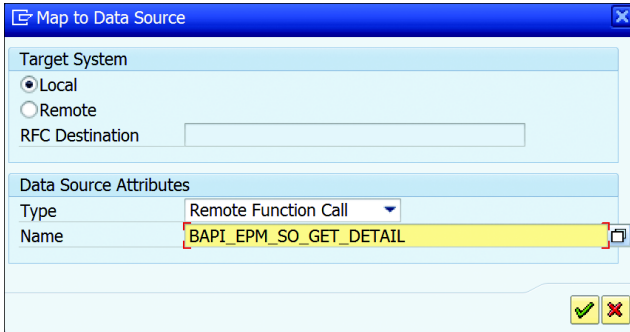

Figure 19.120 Mapping Data Source
2. For the READ operation, implement the BAPI_EPM_SO_GET_DETAIL RFC, as shown in Figure 19.120.